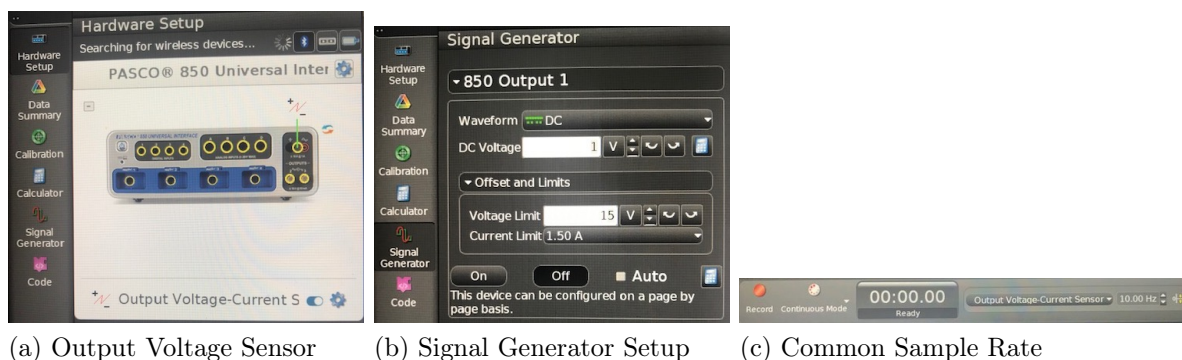

Figure 8: Setup
3. Click on Hardware Setup and for Output 1, select the Output Voltage Current Sensor as shown in Figure 8(a).
4. Click open the Signal Generator at the left of the screen. Set Output 1 for a DC Waveform with a DC Voltage of 1V. Select **ON** as shown in Figure 8(b).
5. On the bottom of the screen, next to *Output Voltage-Current Sensor*, set the Common Sample Rate to 10 Hz as shown in Figure 8(c).